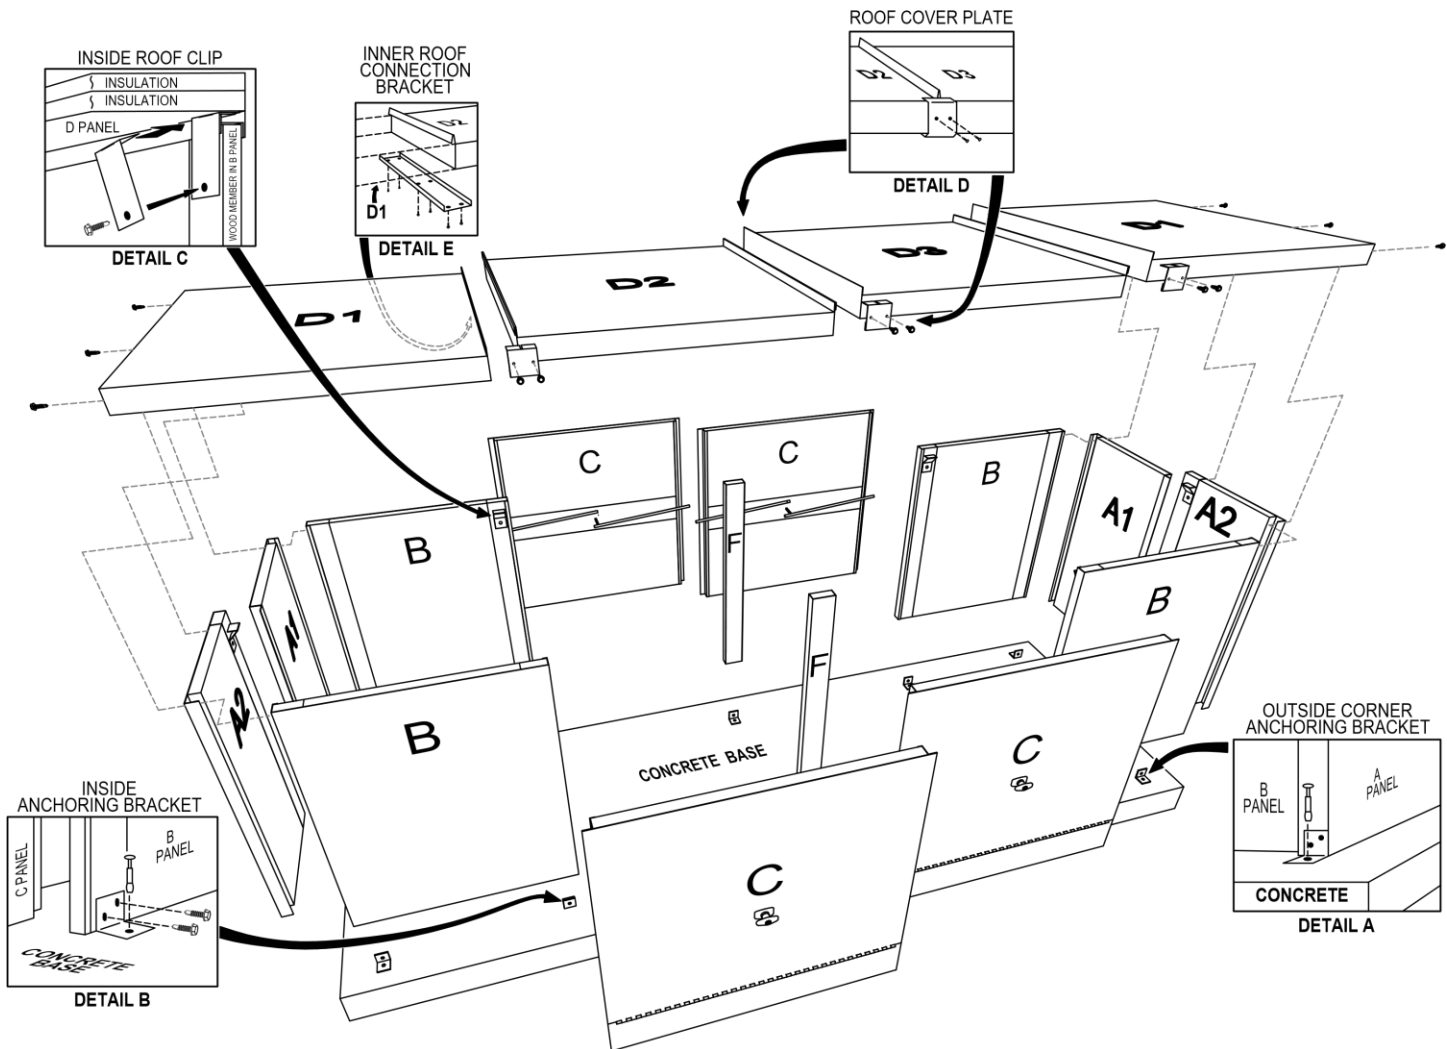

FIG. 2
7. Place one of the “D1” (roof) panels on a “B-A1-A2-B” (corner-end-corner) assembly and then fasten the roof as shown through the holes provided (Fig. 2) using three (3) Hex Head Screws.